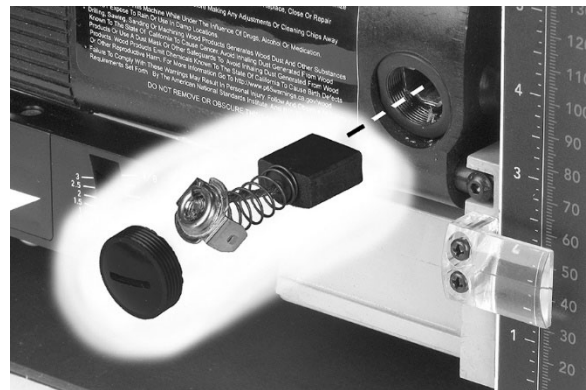

Figure 10-1: carbon brushes
2. Unscrew and remove cap with flat blade screwdriver. See Figure 10-1.